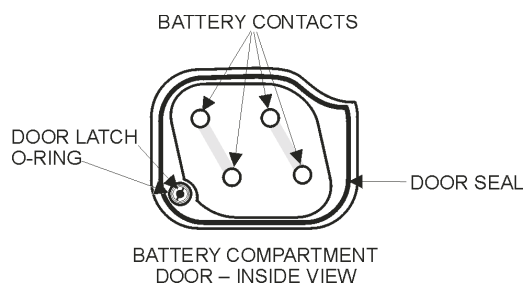

Figure 13 The Inside of the Battery Door
- Inspect the four battery contacts on the inside of the door (Figure 13). If any corrosion is seen, clean it off with a pencil eraser.
- Inspect the seal on the inside of the door (Figure 13); it should be whole and entire. If the seal is cracked or broken, the unit may no longer be watertight.
- Inspect the O-ring seal around the door latch's post (Figure 13). If the seal is cracked or broken, the unit may no longer be watertight.